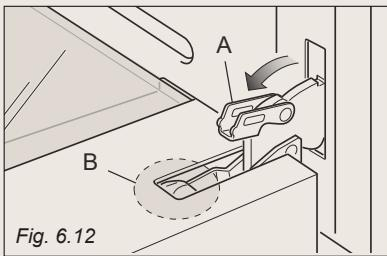
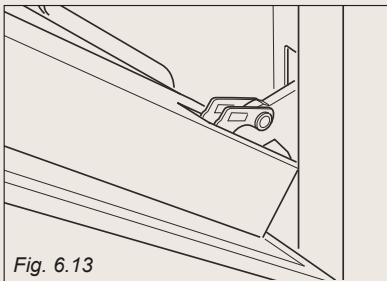

Fig. 6.12
Fig. 6.13
- \* Open the lever "A" completely on the left and right hinges (fig. 6.12).
- \* Gently close the door (fig. 6.13) until left and right hinge levers "A" are hooked to part "B" of the door (fig. 6.12).